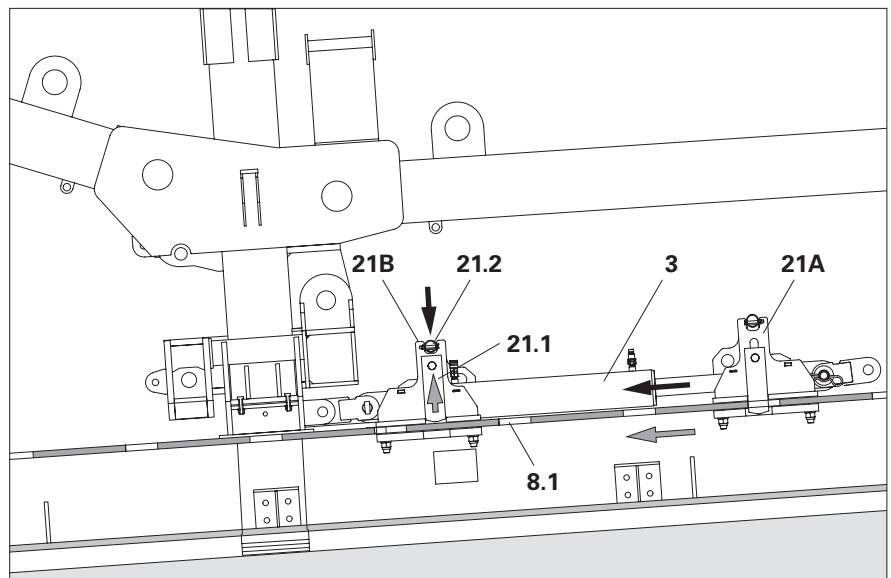

Fig. C2.07
- The rail is pulled forward by the drive catch head **(21A)**. (Fig. C2.07)